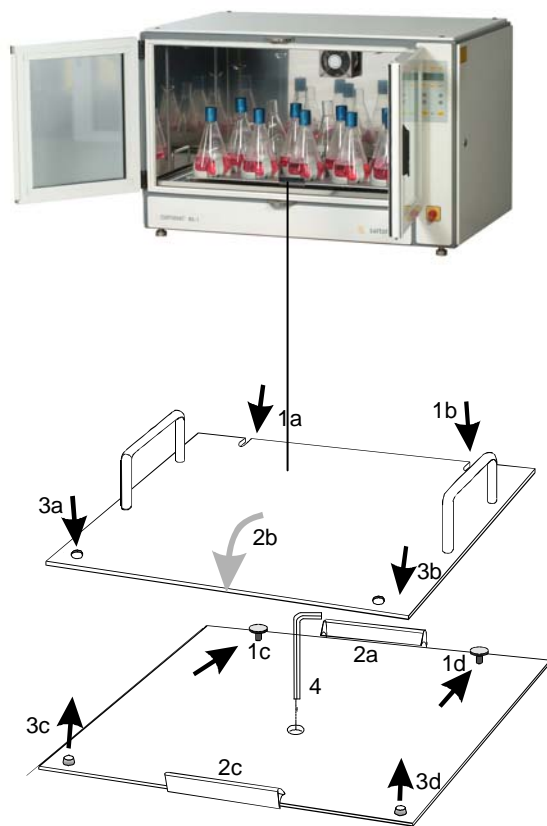

Fig. 10 Mounting of the tray on the shaking table (tray shown without mounting systems and containers)
5. Block the drive of the shaking table by putting the delivered hexagon socket screw key through the boring of the shaking table (Fig. 10, pos. 4). Carefully turn the shaking table until the drive has totally blocked.
The following set-ups in the “main menu” (fig. 10) can be carried out: